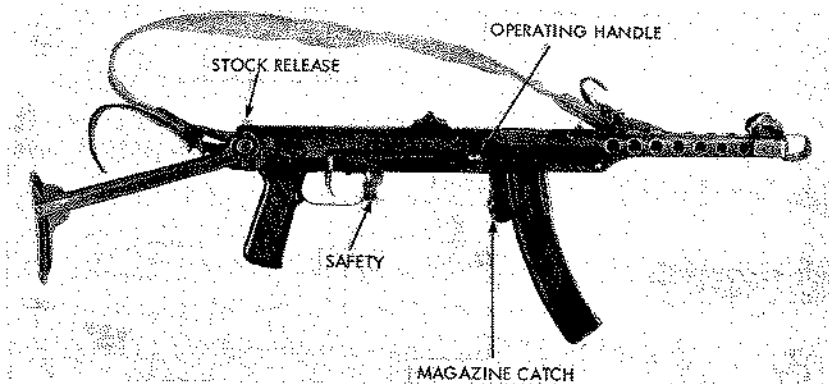

Figure 38. Soviet Model 1943 submachinegun (PPS-43).
a. The Model 1943 submachinegun (fig 38) was produced during World War II by the Soviet Union, primarily for parachutists who found the fixed-stock PPSH-41 too unwieldy for airborne operations. The PPS-43, now obsolete in the Soviet
d. The safety (fig 38) can be applied by pressing its fingerpiece (alongside the trigger guard) rearward and upward. A reversal of this motion takes off the safety.
f. Remove the magazine by pressing the magazine catch (fig 38) forward and withdrawing the magazine.